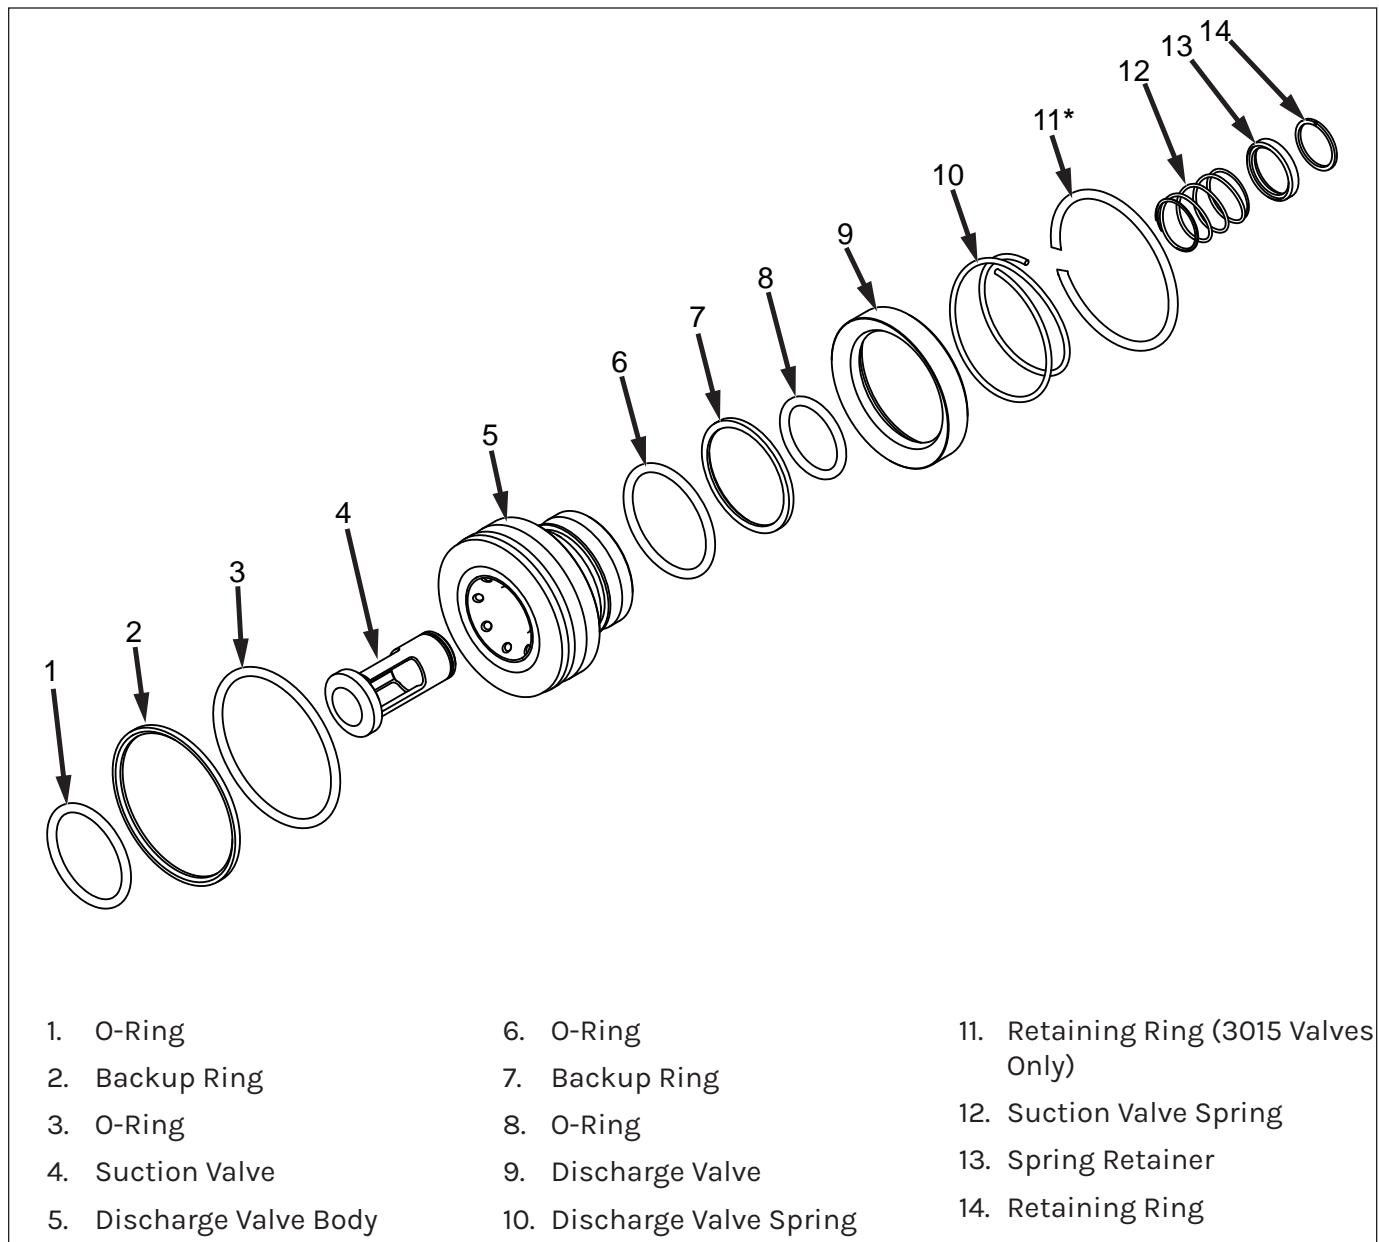

Figure 115: 15/20K Uni-Valve Exploded View.
**Note:** 3015 valves are equipped with a retaining ring to secure the discharge spring (Figure 115).